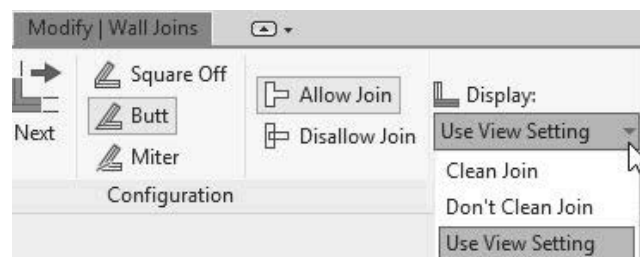

Figure 7–26
4. With any *Display* options selected, you can click  (Allow Join) or  (Disallow Join) in the *Modify | Wall Joins* tab>*Configuration* panel (shown previously in Figure 7–26). When you select one of these two options, the contextual tab options gray out. To bring back your options, click the wall's corner again.